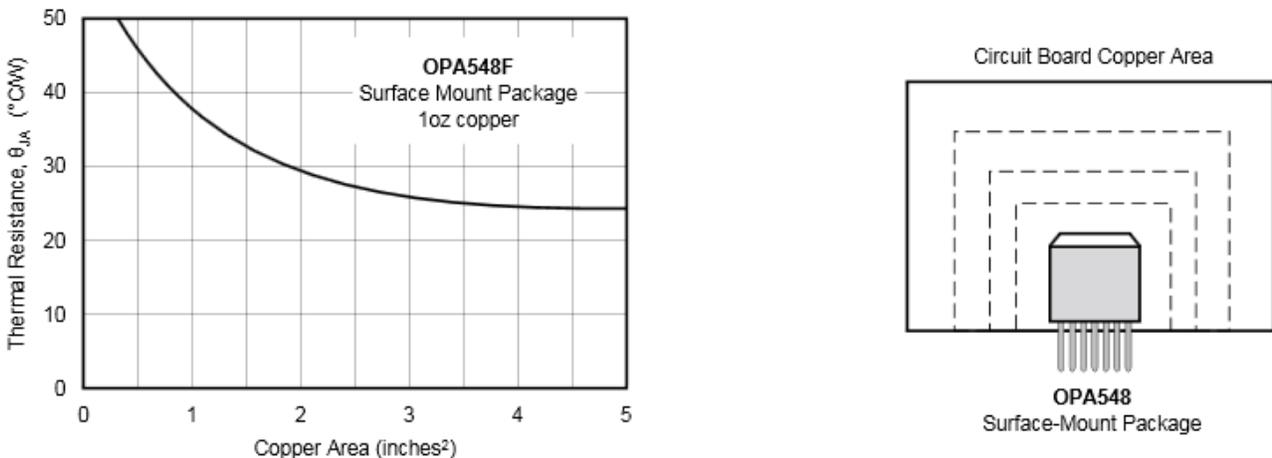

Figure 43. DPAK Thermal Resistance vs Circuit Board Copper Area
For best thermal performance, the tab of the DDPAK surface-mount version should be soldered directly to a circuit board copper area. Increasing the copper area improves heat dissipation. See Figure 43 for typical thermal resistance from junction-to-ambient as a function of the copper area.
- (1) 为了提高热性能，增加了封装面积。请参阅Figure 43。
- (2) 尺寸单位为英寸。有关公差和详细的封装图，请参见机械制图或 www.ti.com.cn。